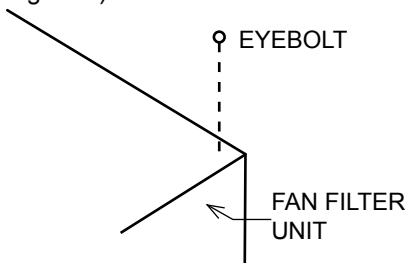

Figure 2: Hanger Supports
Step 2. If using rigidly supported grid (usually 2" (50 mm) or wider), raise unit through ceiling and lower onto the gasketed grid. If using a flexible grid (typically supported with wires), the unit must be secured to an engineered design support system with s-hooks and chain. Screw the four eyebolts into the nutserts on the lid assembly before lifting into an overhead position (see Figure 2). **Note:** Confirm fan dimensions to match T-grid dimensions.